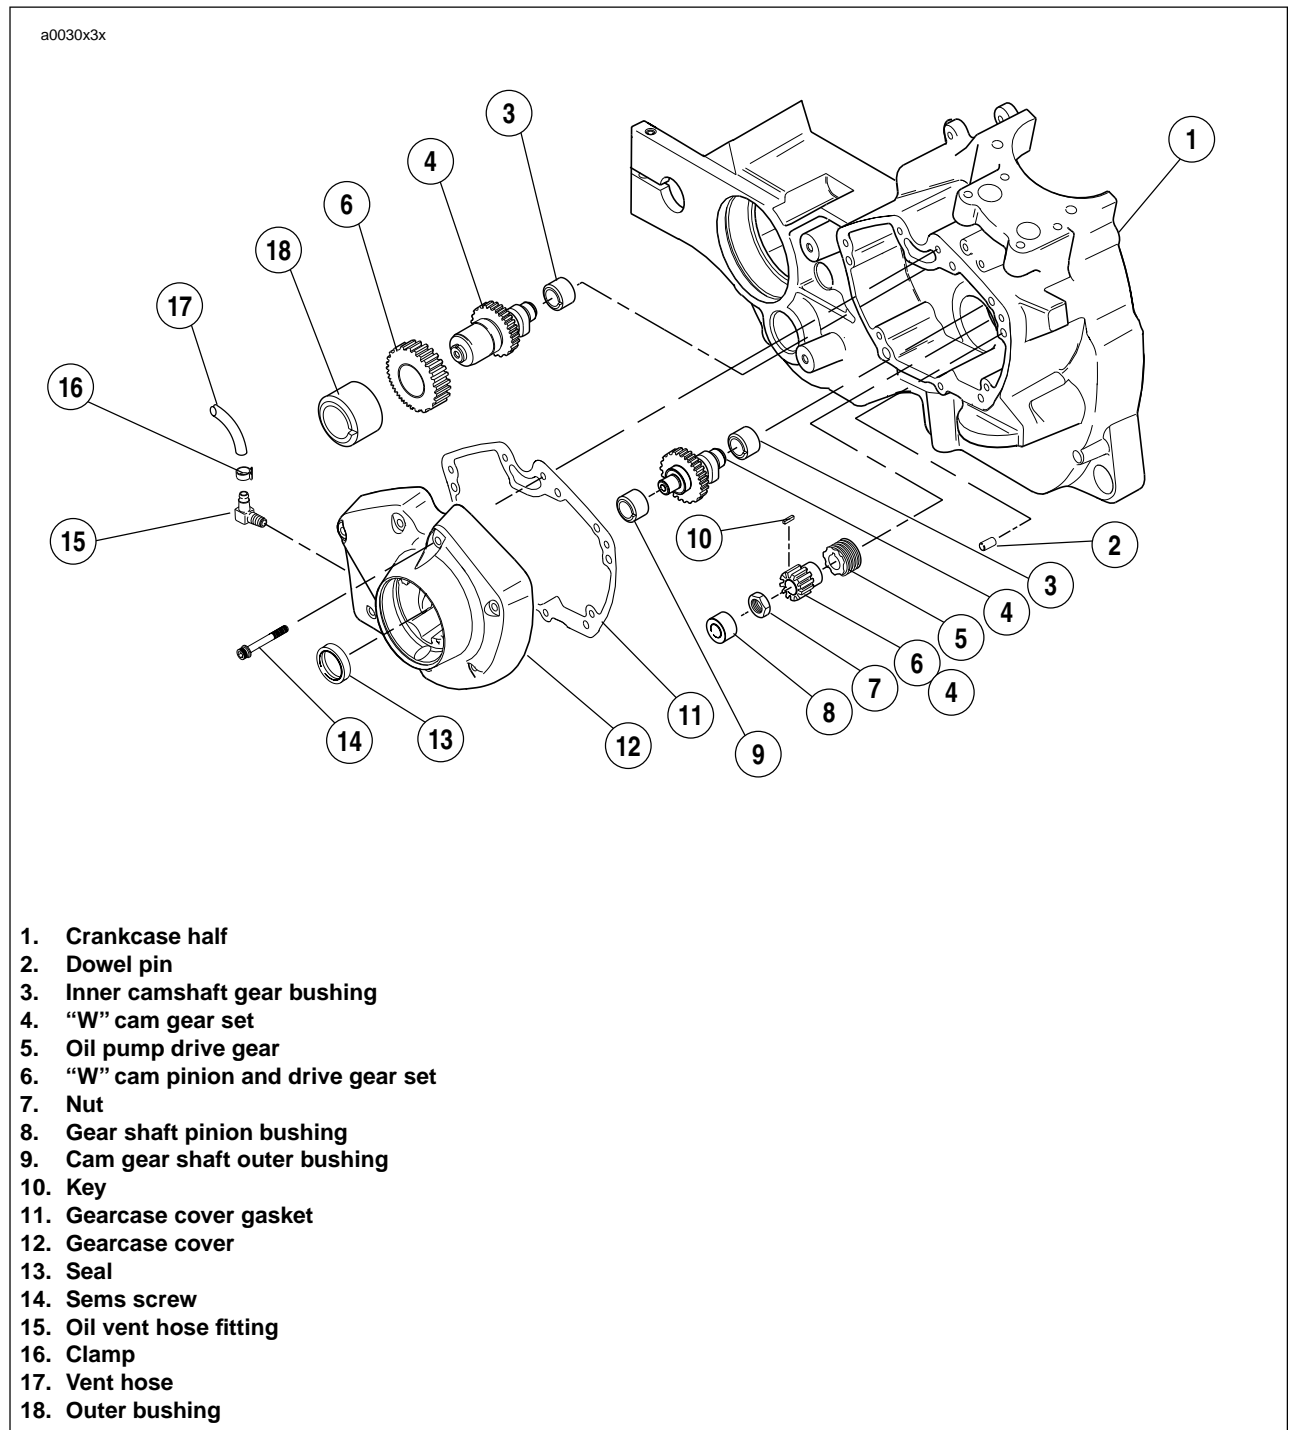

Figure 3-103. Gearcase Cover & Cam Assembly
1. See Figure 3-103. Thoroughly clean area around gearcase cover and tappets. Blow loose dirt from crankcase with compressed air.
1. See Figure 3-103. Bushings are press fit in crankcase and gearcase cover. Inspect each bushing against its corresponding cam gear shaft or pinion gear shaft. See Table 3-30.
See Figure 3-103. The intake cam gear bushing must be installed in its gearcase cover bore using an arbor press. You will need to orient the bushing in a specific position of rotation within the cover bore according to the following procedures:
1. See Figure 3-103. Using an arbor press, install pinion shaft bushing in its gearcase cover so that bushing is flush with cover boss. There is no need to orient this particular bushing in any specific position of rotation within the gearcase cover bore.